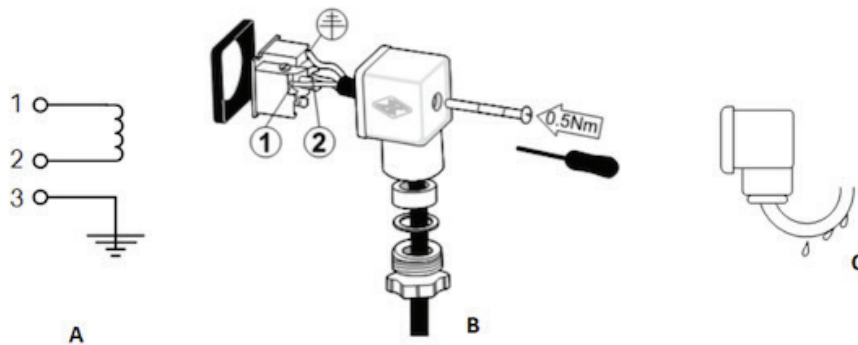

Figure 7: Connecting wires (A), attaching the connector to the coil (B), preventing condensation drops on the cable (C) of a solenoid valve
- 2) Use a round cable. Connect terminals (1) and (2) to the power supply. The polarity does not matter (Figure 7 labeled A) for a DC coil. However, it is important to consider the polarity of these wires when connecting to external components like a timer or an LED connector.
- 4) Connect the connector to the coil (Figure 7 labeled B). Make sure that no moisture can come between the coil and the connector. Use a torque of 0.5Nm for the mounting screw.
- 5) Position the cable in a way that condensation drops can not slide along the cable into the connector (Figure 7 labeled C).